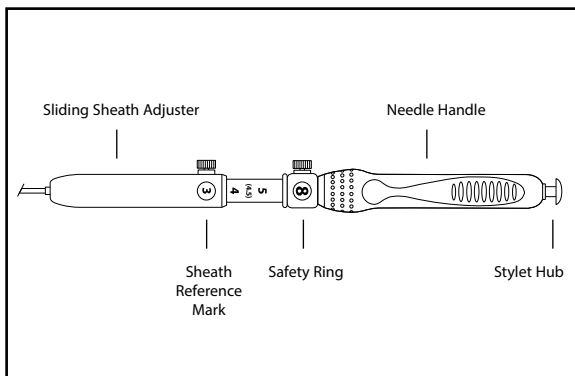

Fig. 1
5. Adjust the sheath to the desired position, ensuring that it is visible on the endoscopic image, emerging from the working channel of the scope. To adjust length, loosen the thumbscrew lock on the sliding sheath adjuster and slide until the preferred length is attained. **Note:** The reference mark for the sheath length will appear in the sliding sheath adjuster window (**Fig. 1**). Tighten the thumbscrew on the sliding sheath adjuster to maintain the preferred sheath length.